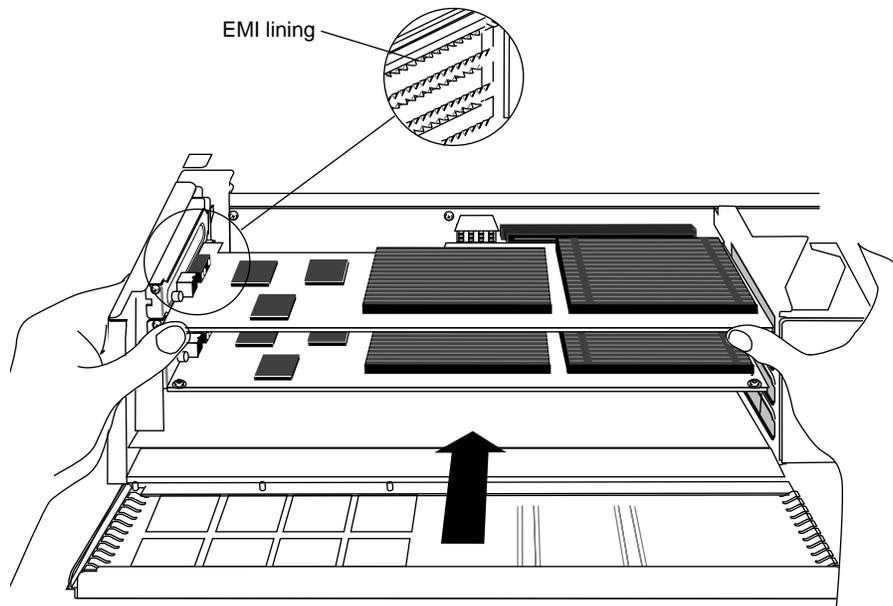

Figure 1-11 Installing the Solid IMPACT Graphics Board
- Grasp the chassis with your fingers and push the board set into place with your thumbs. See Figure 1-11.